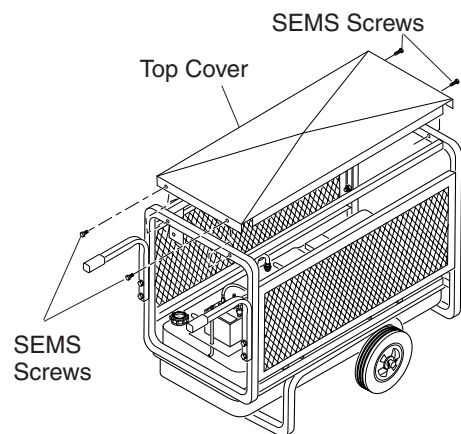

Figure 8 - Attaching Top Cover to Roll Cage
2. Place top cover on top of generator roll cage with notch on control panel side. Use four #8 SEMS screws provided to attach cover to roll cage (See Figure 8).